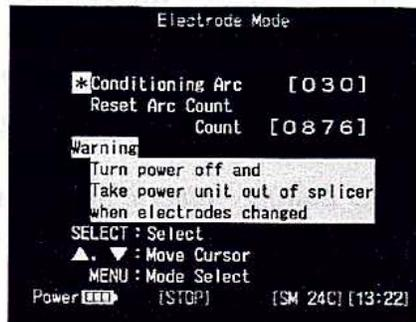

Figure 50. Electrode Mode Menu
1. From the ELECTRODE MENU shown in Figure 50, choose RESET ARC COUNT.